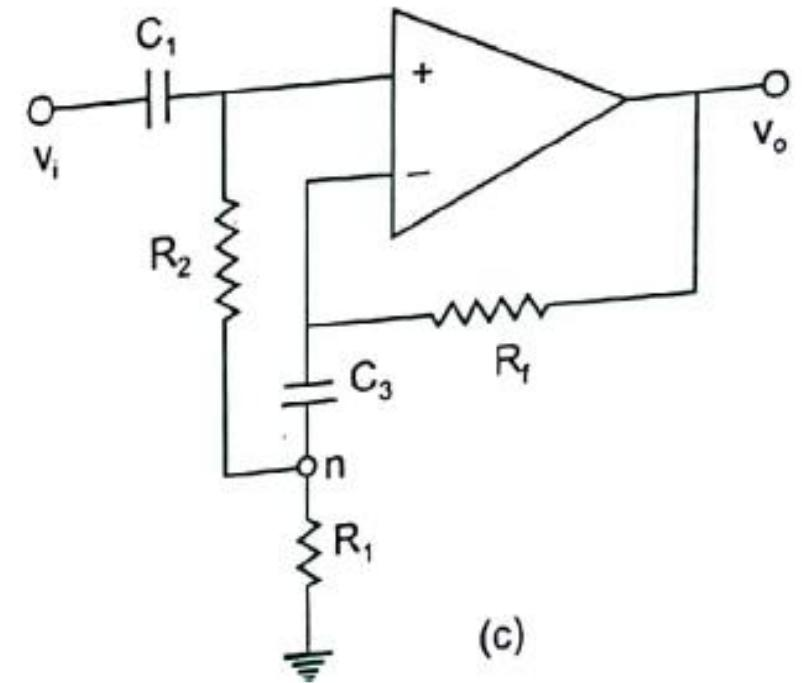

Fig.7. High input impedance non-inverting ac amplifier
- This problem of low input impedance is eliminated by connecting capacitor C_3 as shown in Fig.7.